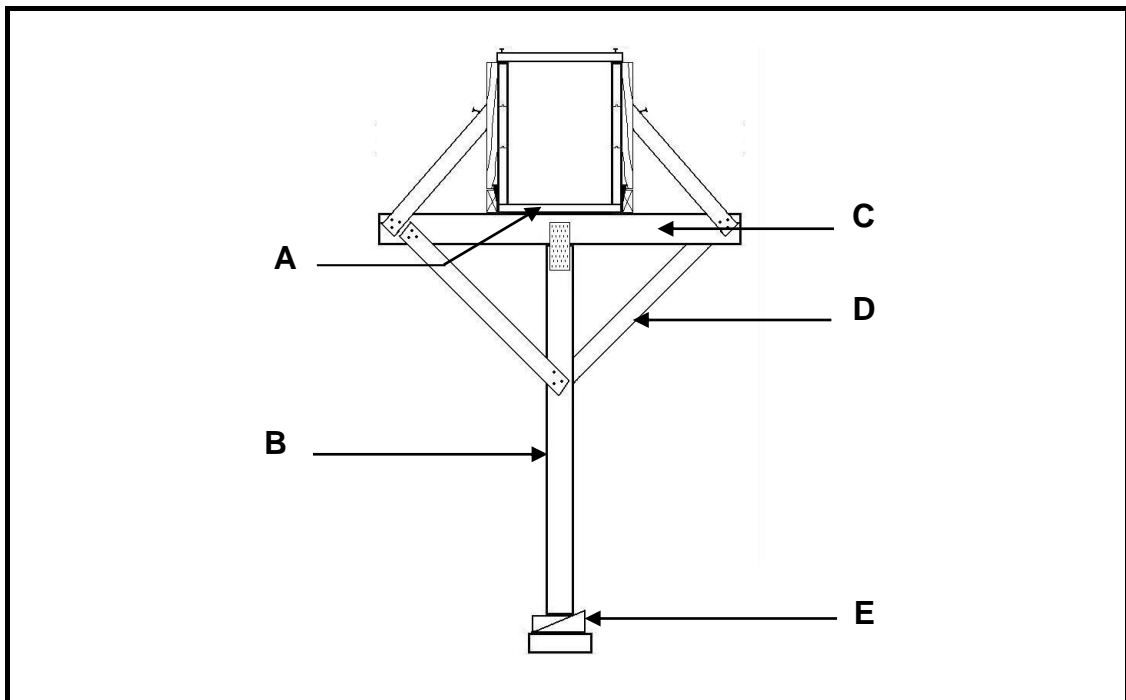

FIGURE 6.3
- 6.3 Answer the following questions with regard to the formwork in FIGURE 6.3.